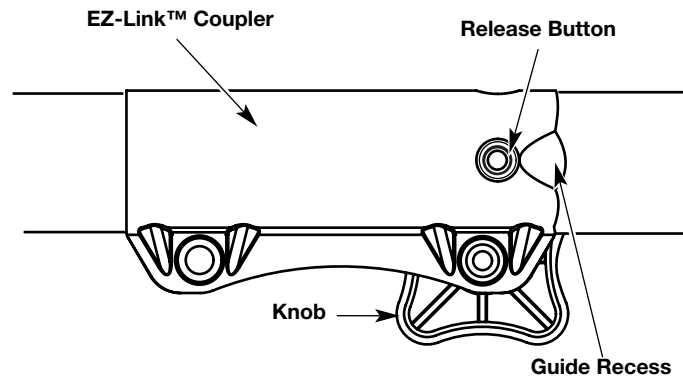

Fig. 22
1. Turn the knob counterclockwise to loosen (Fig. 22).
2. Press and hold the release button (Fig. 22).
1. Turn knob counterclockwise to loosen (Fig. 22).
NOTE: Aligning the release button with the guide recess will help installation (Fig. 22).